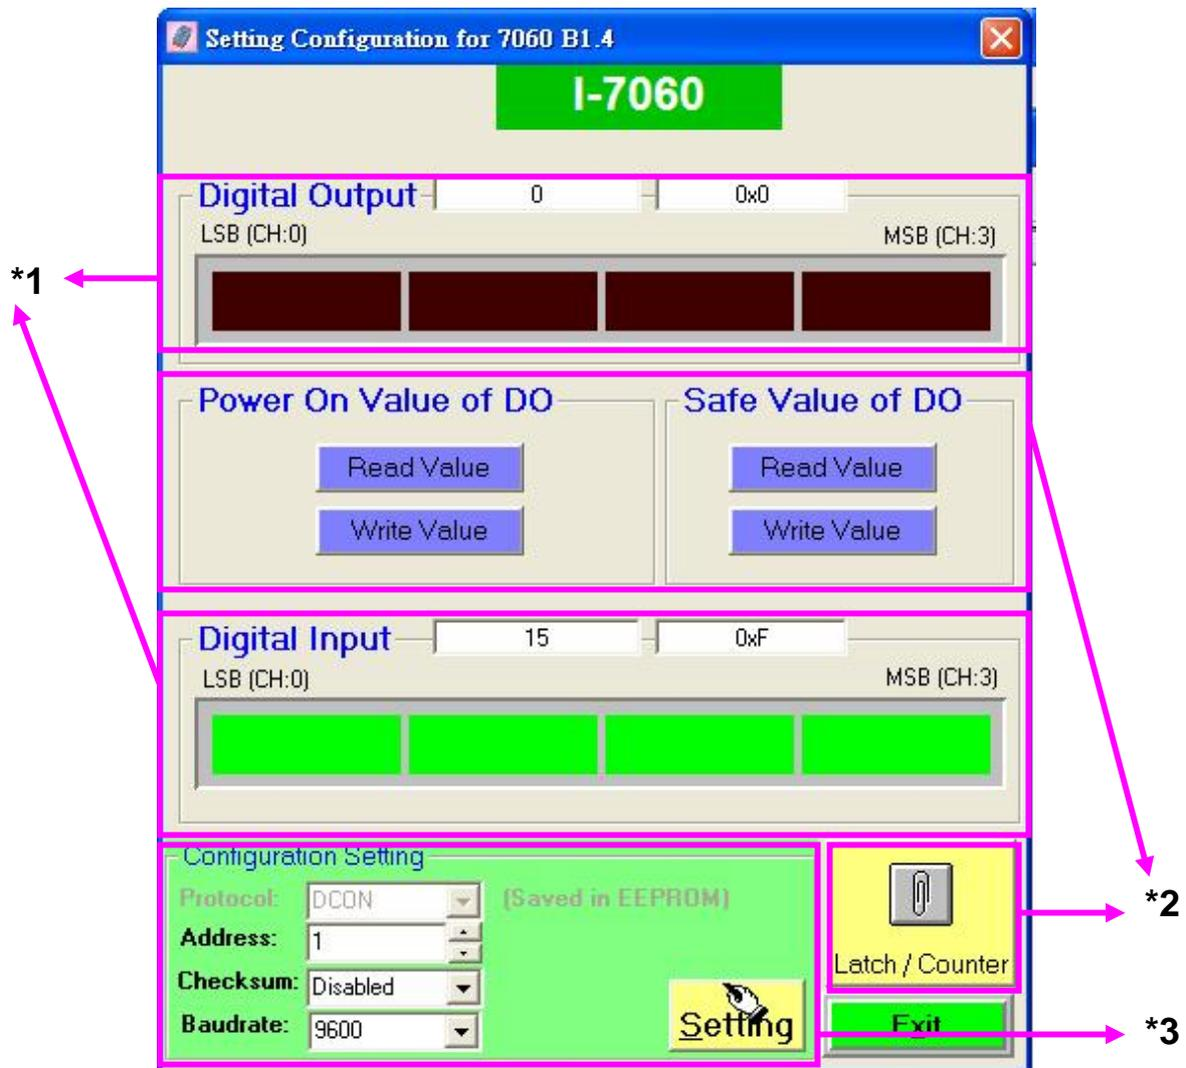

Figure 2-4
- Click the  button to stop searching, then double click the module name, shown as M-7060 in Figure 2-3. The dialog shown in Figure 2-4 will then open.
\*1 Function test: The LED buttons can be used to monitor the current DI status. Clicking the LED buttons will change the current DO status. Figure 2-4 shows that the current DI status of all 4 channels on the M-7060 is set to ON.